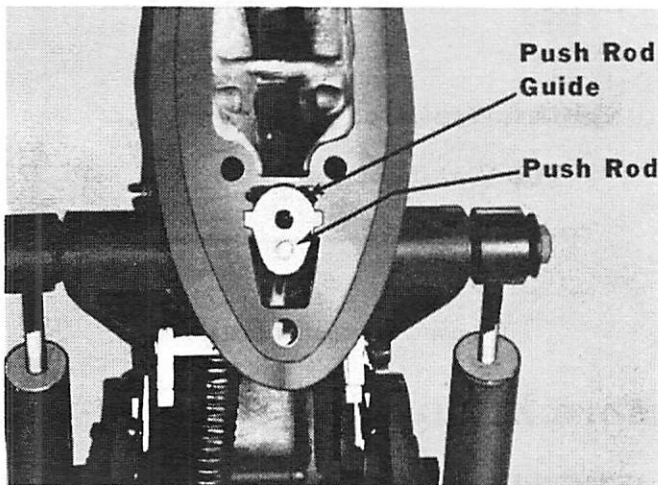

Figure 5. Push Rod Guide Installed
4. Install push rod guide into drive shaft housing, sliding over upper shift shaft coupling and push rod. (Figure 5)